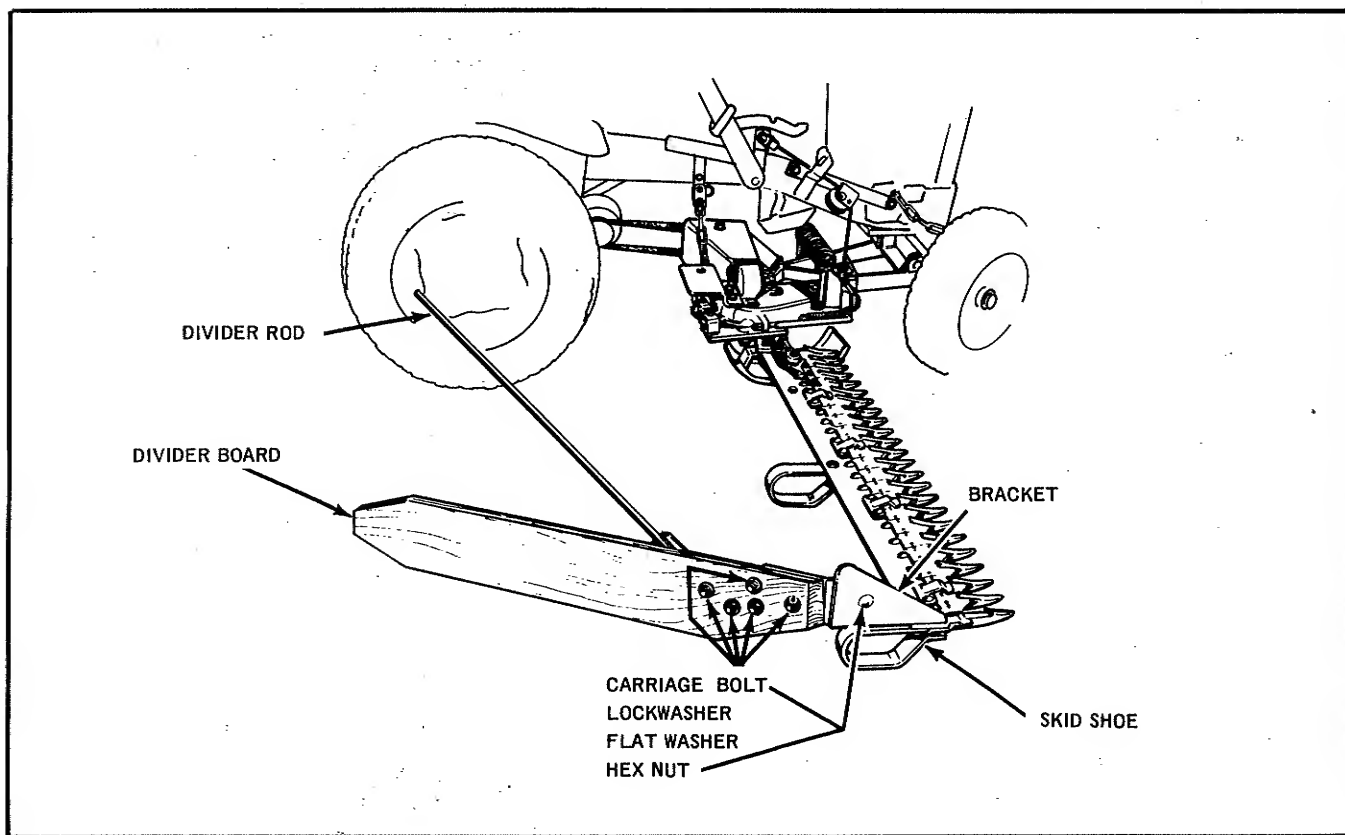

FIGURE 5
8. Attach the divider board to the inner face of the bracket attached to the end of the sickle bar assembly, using one carriage bolt and hex lock nut. Adjust this nut so that the divider board can swivel freely without excessive side clearance. Refer to Figure 5.